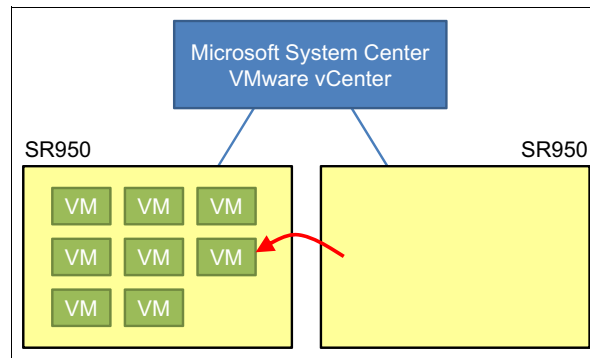

Figure 7-22 UIM move VMs from the next server
- Any running VMs are moved from the next server that is to be updated to another server, as shown in Figure 7-22.